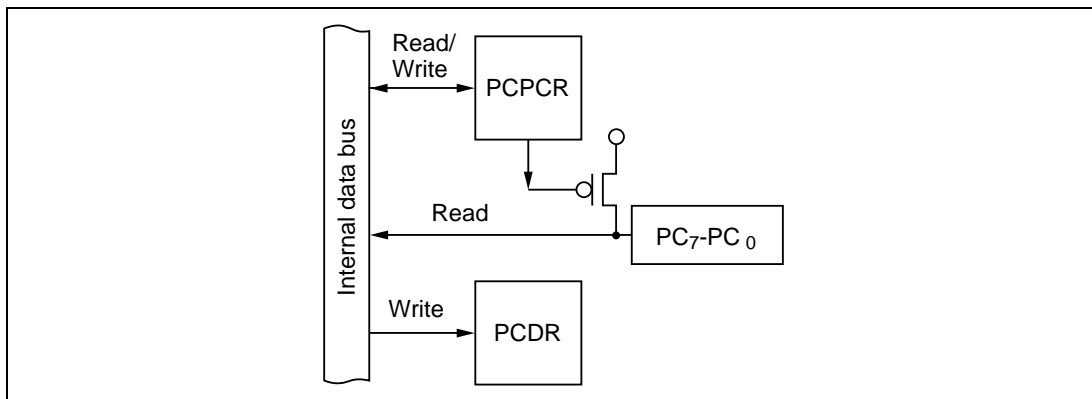

Figure 10-88 Input Port with Built-In Pull-Up Transistors (Mode 7)
(2) **Input Port with Internal Pull-Up (Mode 7):** Figure 10-88 shows a block diagram illustrating the general-purpose input function of port C using the built-in input pull-up transistors. Table 10-65 indicates register read/write data. Values written in the port C data register (PCDR) have no effect on general-purpose input lines. When read, PCDR returns the value at the pin. When a bit in the port C pull-up transistor control register (PCPCR) is set to 1, the corresponding PCDR bit always reads 1.